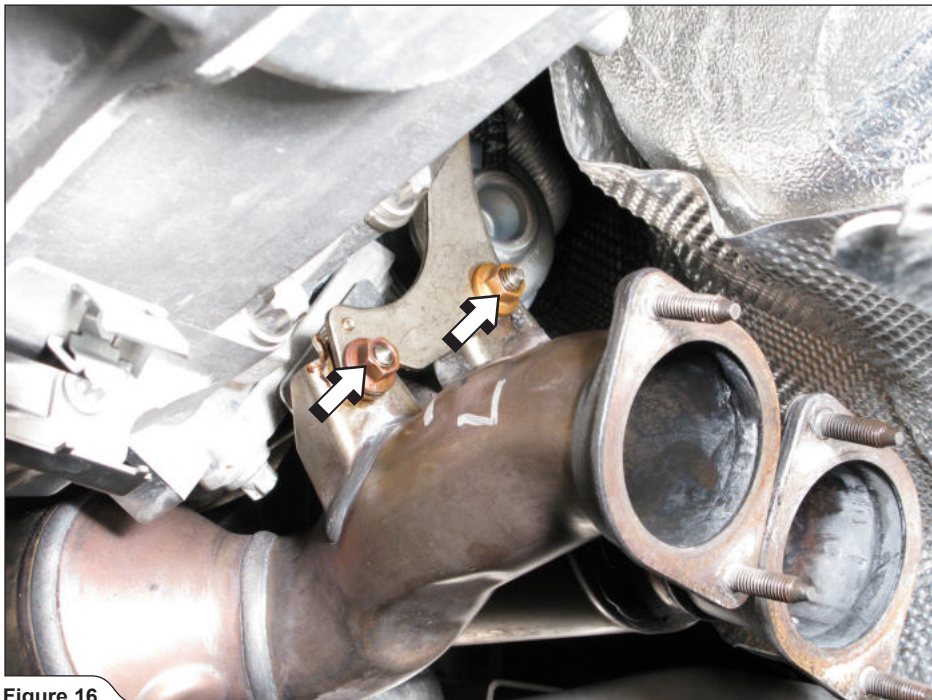

Figure 16
15. **For optional Down Pipes:** fully unscrew the down pipes' bracket nuts and carefully remove the down pipes off the vehicle (**Figure 16**).